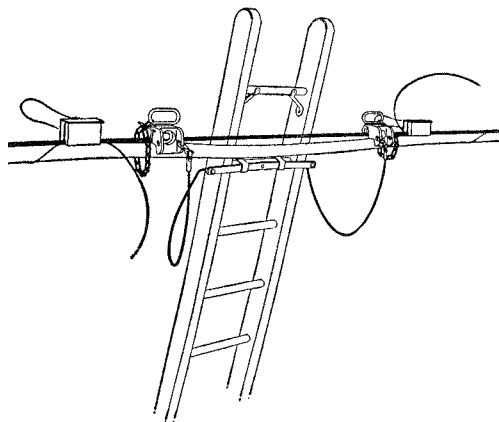

Fig. 16 — B Ladder Support Attached to Strand
6.16 To use the B Ladder Support, place the ladder against the strand and secure the bar of the sling assembly to the back of the ladder on the second rung from the top of the ladder by pushing the hooks toward the side rails until the hooks bind on the rung. Attach the clamp assemblies to the strand, as illustrated in Fig. 16. Place the safety chains around the strand to prevent the ladder from turning in the event a clamp becomes accidentally disengaged.